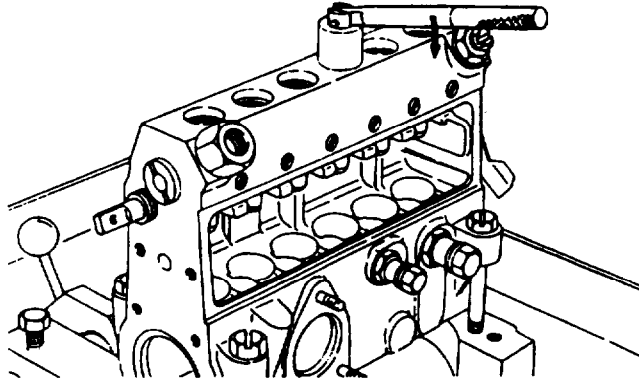

FIGURE 3-15. Removing Delivery Valve
- ae. Remove two plate assemblies (32).
- af. Loosen four delivery valve bodies (33).
- ag. Remove delivery valve body (33) and spring (34).
- ah. Screw extractor (1579299620) into delivery valve (35). Push down the pin and remove delivery valve (35) and gasket (36), refer to FIGURE 3-15.